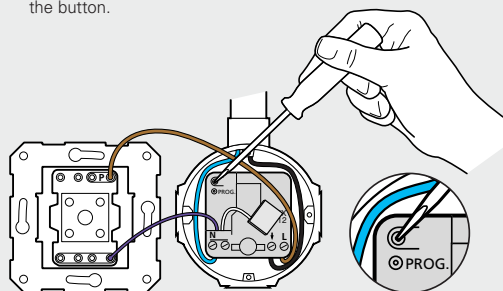

Figure 15. Activating and deactivating the programming mode.
- Press the programming button for at least three seconds (see Figure 15). The red LED will light up and stay on after releasing the button.